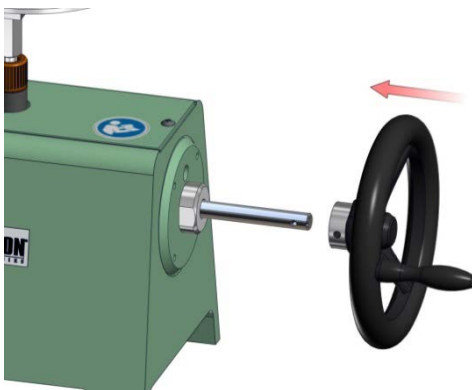

Figure 4.9.6
6. Slide the Rotary Handle over the exposed Spindle end. See Figure 4.9.6 below.